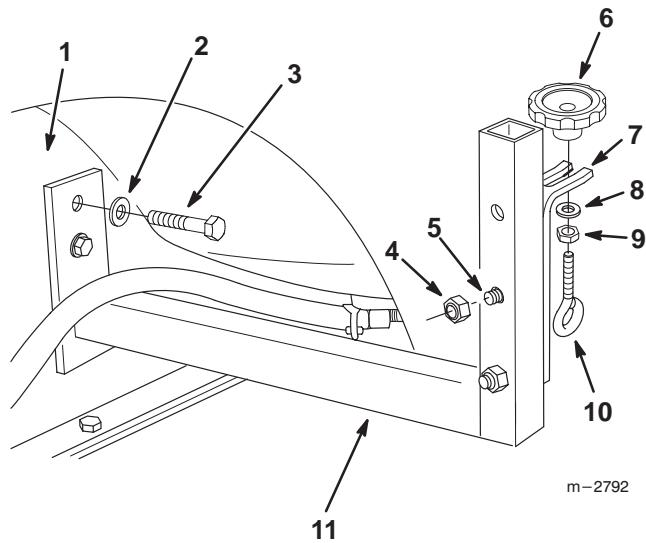

Figure 8
4. Fasten the spring bracket assembly to the existing holes in the seat frame assembly using two 1/4"-20 x 5/8" (16 mm) hex bolts, spring lock washers and locknuts (Fig. 8).
5. Fasten the support plate to the bottom two holes in the spring bracket assembly using two 5/16"-18 x 1-3/4" (44 mm) hex bolts and locknuts (Fig. 8).
6. Thread a 5/16"-18 hex nut all the way onto the eyebolt to the end of the threads near the "eye" (Fig. 8).
7. Install a 11/32" (9 mm) flat washer and the knob onto the eyebolt (Fig. 8).